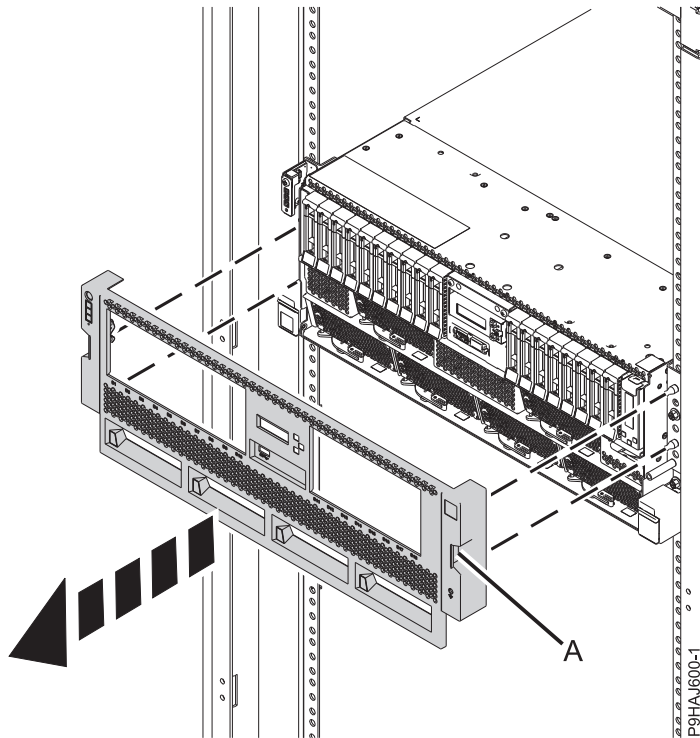

Figure 4. Removing the front cover
2. You can remove the front cover by pulling it away from the system. The cover has indentations where you can hold it more easily. See Figure 4 on page 18.